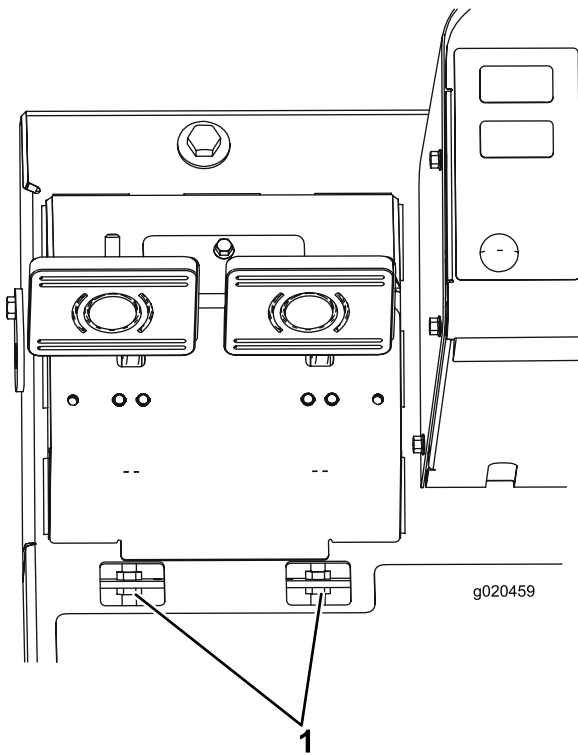

Figure 67
- B. Loosen the front nut on the threaded end of the brake cable (Figure 67).